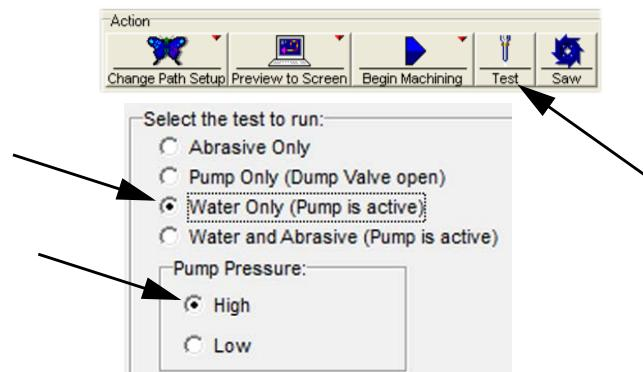

Figure 5-53
- Following installation, test nozzle operation using low, then high-pressure water only. Refer to Figure 5-53.